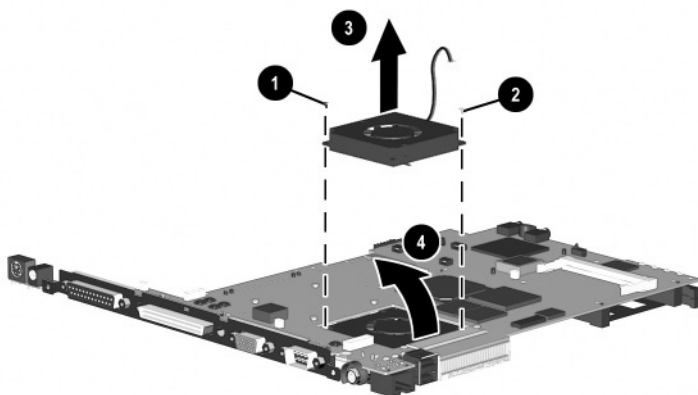

Figure 5-31. Removing the Fan on an Evo Notebook N600c
5. Remove the PM2.0 $\times$ 4.0 screw ❶ and PM2.5 $\times$ 5.0 screw ❷ that secure the fan to the system board (Figure 5-31).
6. While holding the system board above the work surface, push the left side of the fan up ❸ from the bottom of the system board.
7. When the left edge of the fan has cleared the system board, slide the fan to the left ❹ and out of the heat sink.